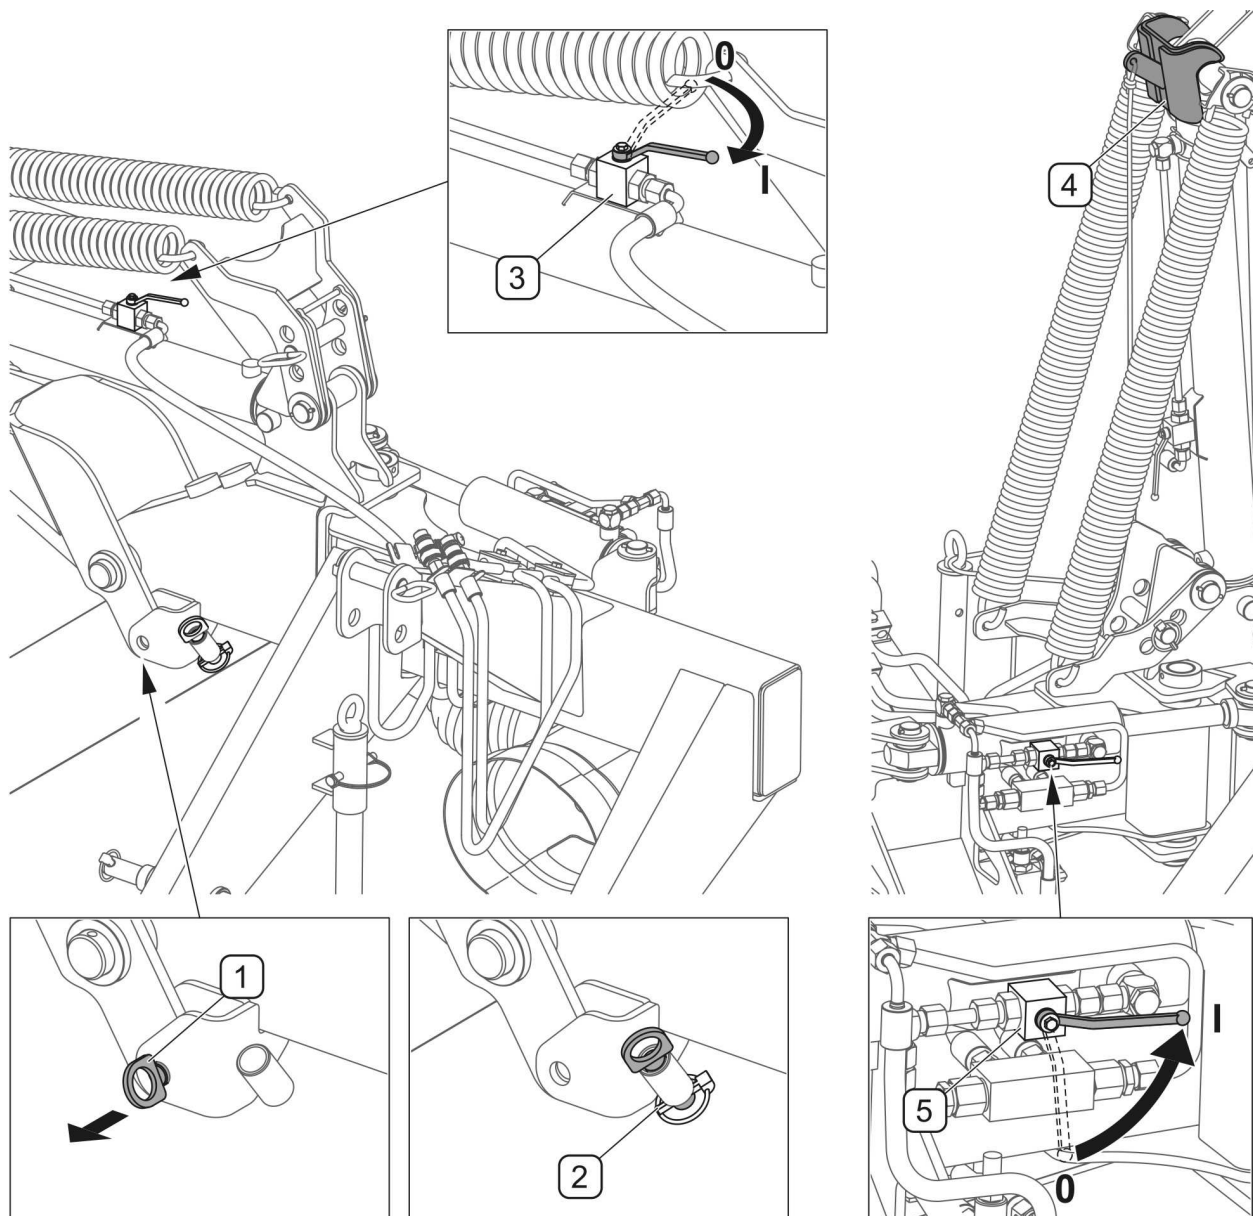

FIG. 4.4A **Setting transport position**
- Release and remove arm interlocked pin (1) (FIG. 4.4A), place it in the sleeve and secure with a cotter pin (2),
- Set cylinder interlock valve (3) in open position „I”
- operating the hydraulic cylinder, lift the lifting arm together with cutting unit until cylinder lock (4) is engaged.
- close lifting cylinder valve (3).
When transporting more mounted on the tractor, check if tipping cylinder locks are properly engaged in and if cylinder valves are set in 0 position– closed (FIG. 4.4A)